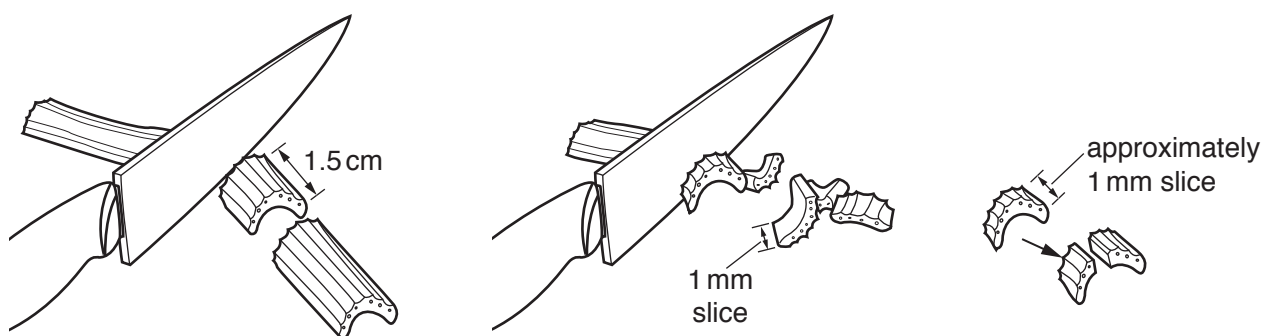

Fig. 1.1 (not to scale)
- Cut this 1.5 cm length into approximately 1 mm slices. Now cut these slices in half as shown in Fig. 1.1.